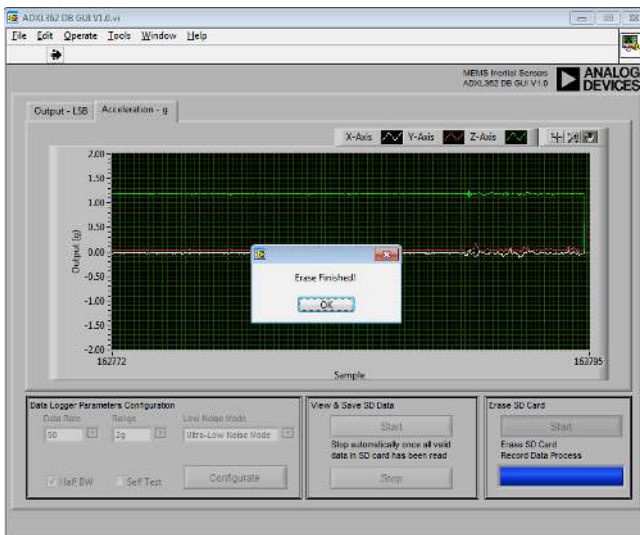

Figure 37. Erase Finished and Successfully
- After view and save SD Card data on PC, it is recommended to erase SD Card for saving data the next time. To erase SD Card, click **Start** in **Erase SD Card** section. Progress bar in Erase SD Card section will show the erase process. It needs around 30ms to erase 256 x 512 bytes data, if there are 1GB valid data saved in SD card, it may need around four minutes to erase. Of course, it needs very long time to save 1GB data. Suppose the output data rate of ADXL362 is 100Hz, it needs to save data continuously around 21 days to generate 1GB 3-axes acceleration data. Figure 37 shows picture once SD card is erased successfully. If there is something wrong with the SD card, it will give the warning message to let you check SD card.